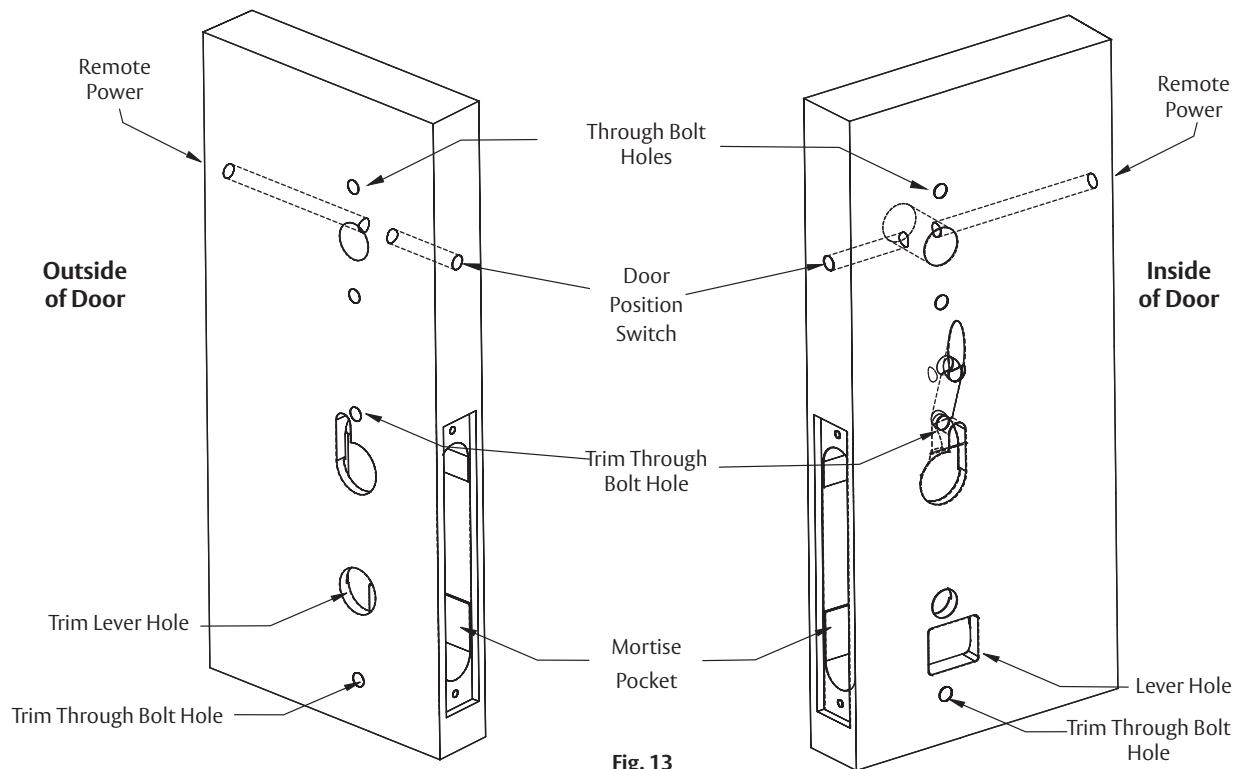

Fig. 13
- d. Mark and drill door. (Figure 13)